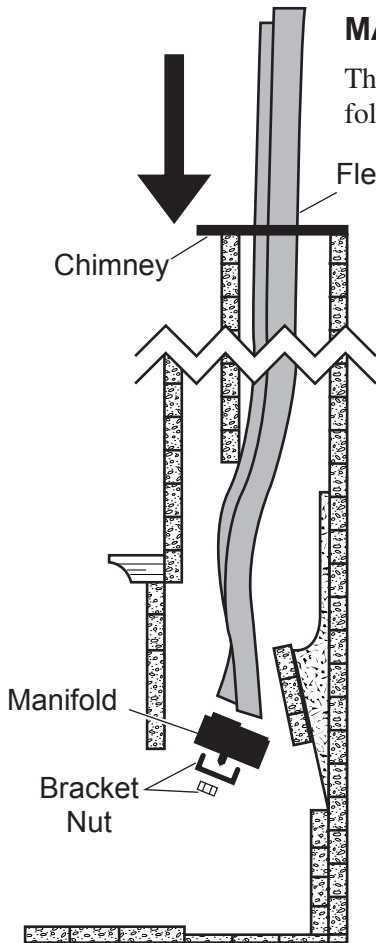

Figure 7 - Placing Manifold Into Fireplace
3. Route flex vent through chimney from above. See Figure 7. Leave an extra 3" (914mm) at the top.